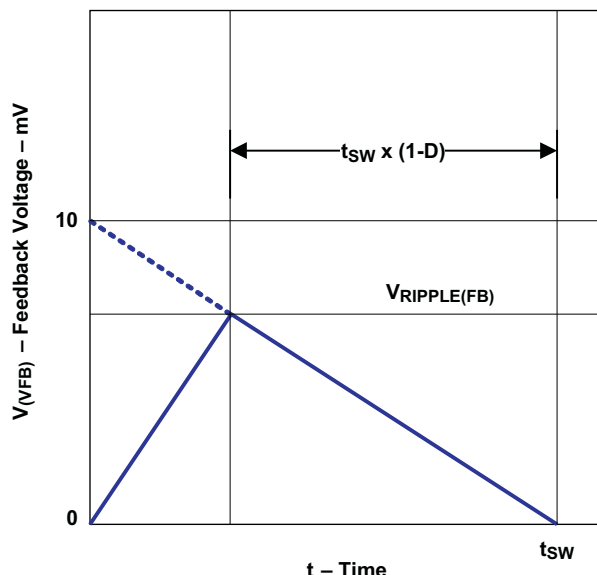

Figure 23. Ripple Voltage Down Slope
- the output ripple down slope rate is 10 mV/t_{SW} in terms of VFB terminal voltage as shown in Figure 23